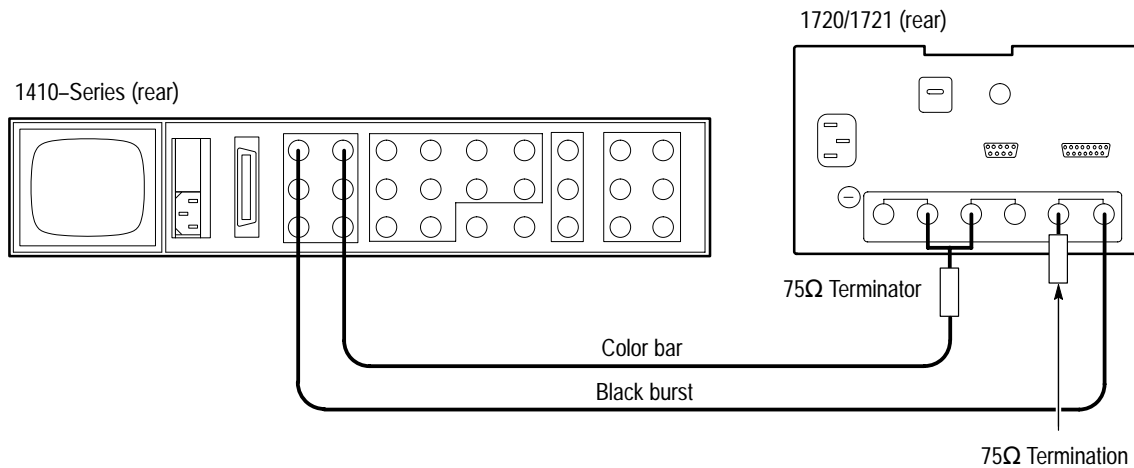

Figure 5-8: Starting connections for the adjustment procedure.
Connect the black burst signal to the 1720/1721 EXT REF INPUT. Connect the color bar signal to the 1720/1721 CH-A INPUT and CH-B INPUT through a dual input coupler with an in-line 75Ω terminator. See Figure 5-8.
- a. Connect the Television Signal Generator output to the 1720/1721 Vectorscope as shown in Fig. 5-8.